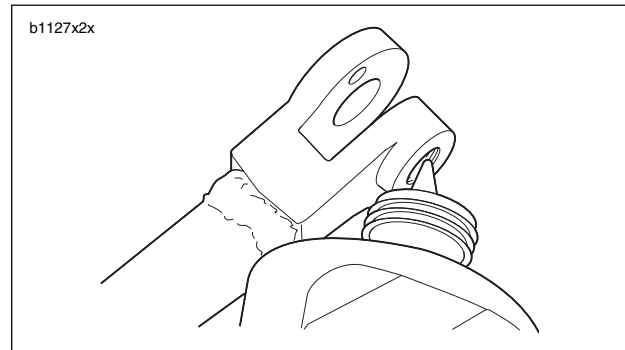

Figure 2-128. Threaded Area for Loctite Application
- b. See Figure 2-128. Apply LOCTITE 272 (Red) to threaded area (clevis) of sidestand leg.